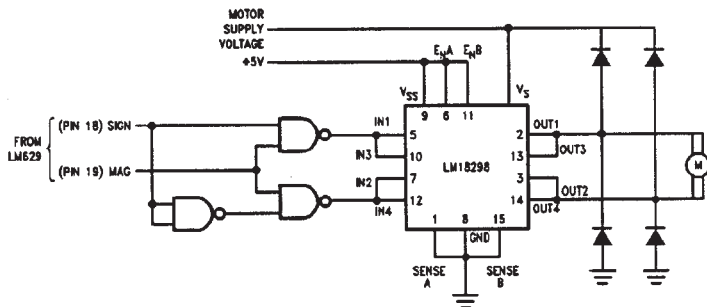
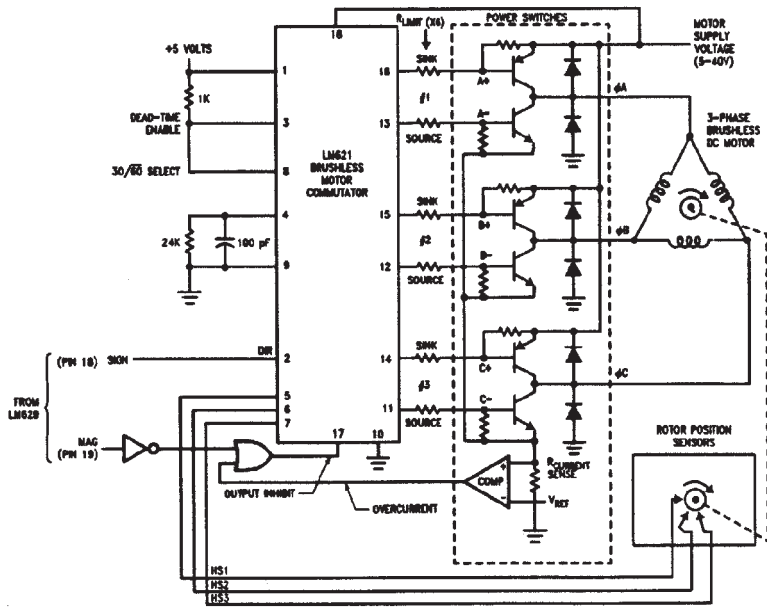

FIGURE 16. PWM Drive for Brush/Commutator Motors
FIGURE 17. PWM Drive for Brushless Motors
Figure 16 shows an LM18296 dual full-bridge driver interfaced to the LM629 PWM outputs to provide a switch-mode power amplifier for driving small brush/commutator motors. Figure 17 shows an LM621 brushless motor commutator interfaced to the LM629 PWM outputs and a discrete device switch-mode power amplifier for driving brushless DC motors.
- Figure 16. Generating a Non-Trapezoidal Profile
- Figure 17. Bode Plots of PID Transfer Function